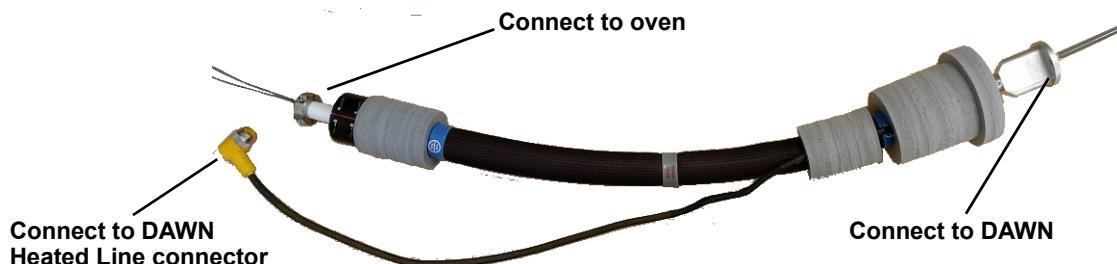

Figure D-4: Flexible heated-line assembly
1. Unpack the flexible heated-line. There should be a heated-line as shown below in Figure D-4, two M3x35 socket head screws, an attached communications cable, and a foam ring. Within the heated-line should be two lengths of 0.020" ID stainless steel tubing. To allow for adjusting the length of the tubing inside the oven, they do not come pre-swaged.